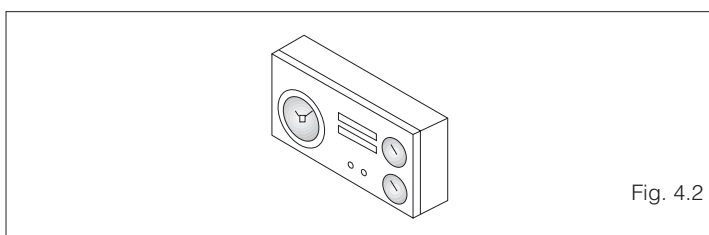

Fig. 4.2
- Set the room thermostat to the required temperature (~ 20°C) or, if the system has a timer or timer-thermostat, make sure that this is switched "On" and adjusted to the required temperature (~ 20°C) (fig. 4.2)